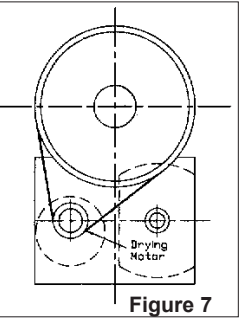

Figure 7
- A. Move the drive belt to the pulley on the finish/dry motor. See Figure 7.